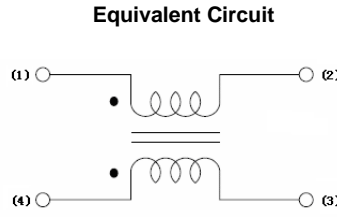

Fig.4-4
- c) Equivalent circuit: See **Fig. 4-4**.